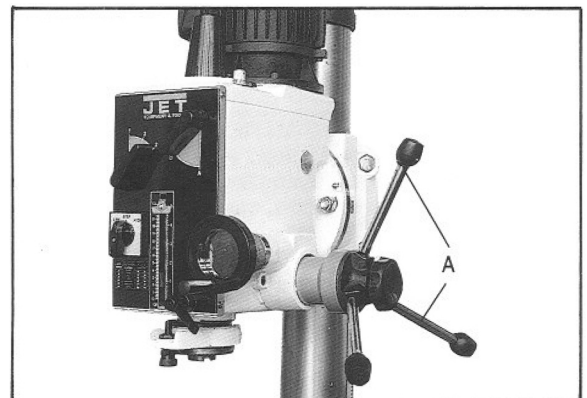

Figure 2
- 4. For the GHD-20/20T, install three handles with knobs (A, Figure 2) into the downfeed hub. For the GHD-20PF/20PFT, screw two knobs onto the handles of the power downfeed assembly.